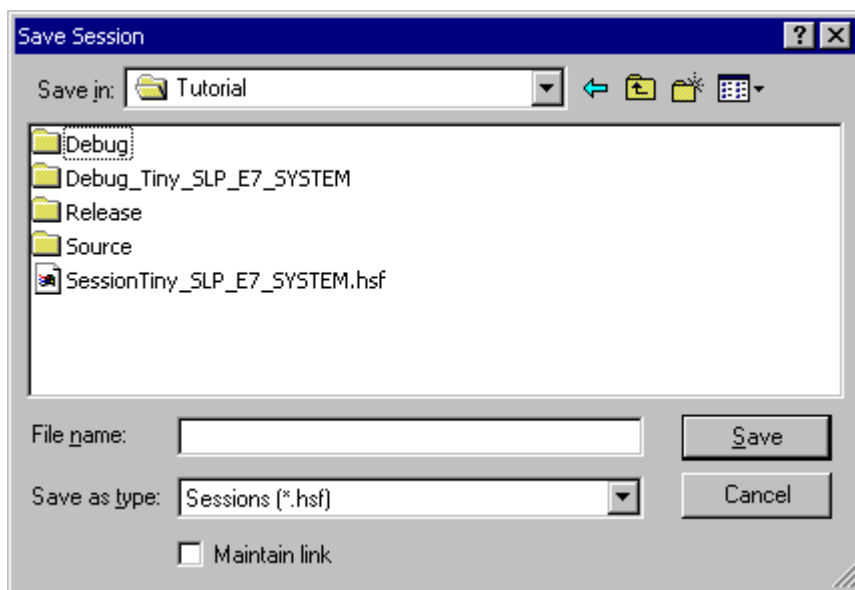

Figure 4.20 [Save Session] Dialog Box
3. Click the [Save as...] button to display the [Save Session] dialog box (figure 4.20).